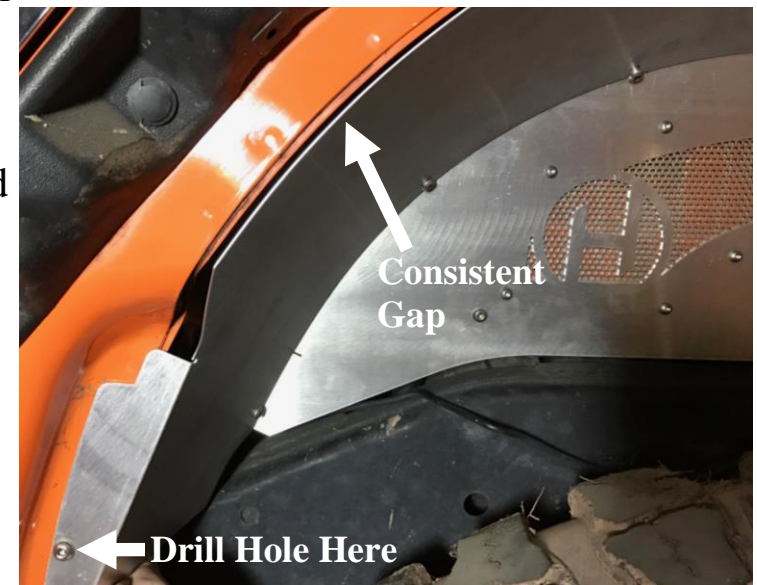

Figure 6
Step 8 – Using the 9/32” bit, drill through the two remaining holes in each end of the fender liner. Push up and hold the fender liners in place to properly locate drilled holes. You’re basically just making sure the edges of your fender liner has a consistent gap between the body and the fender liner. (See **Figure 6 & 7**)